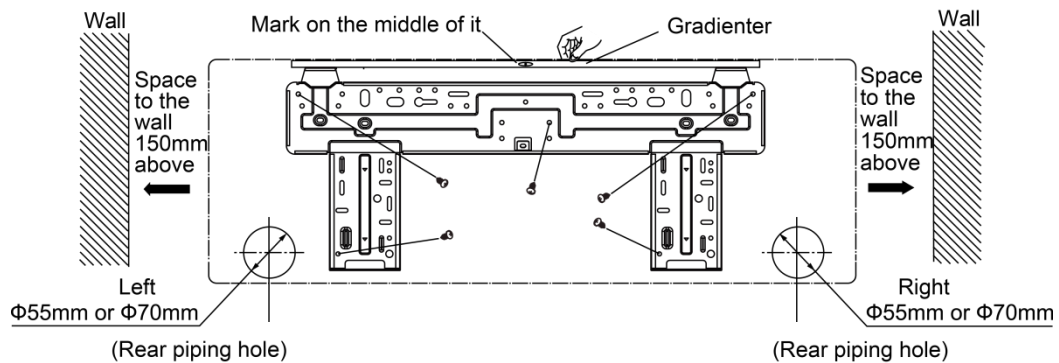

Fig 4.2
- (1) Find the horizontal position by the seton method; since the drainage pipe is on the left side, it is necessary to adjust the rear panel to make its left side a little bit lower.
- (2) Fix the rear panel on the wall by bolts.
- (3) After installing the rear panel, pull it by hands to check if it is secured enough. The hang panel should support the weight of an adult (60kg), and the weight shared by every bolt should be fairly even.
- (4) The diameter showed in Fig.4.2 is 65mm.
- (1) Make the piping hole ( $\Phi$  65mm) in the wall at a slight downward slant to the outdoor side. The center of the hole should be determined referring to Fig.4.2.
- (2) Insert the piping-hole sleeve into the hole to prevent the connected piping and wiring from being damaged when passing through the hole.